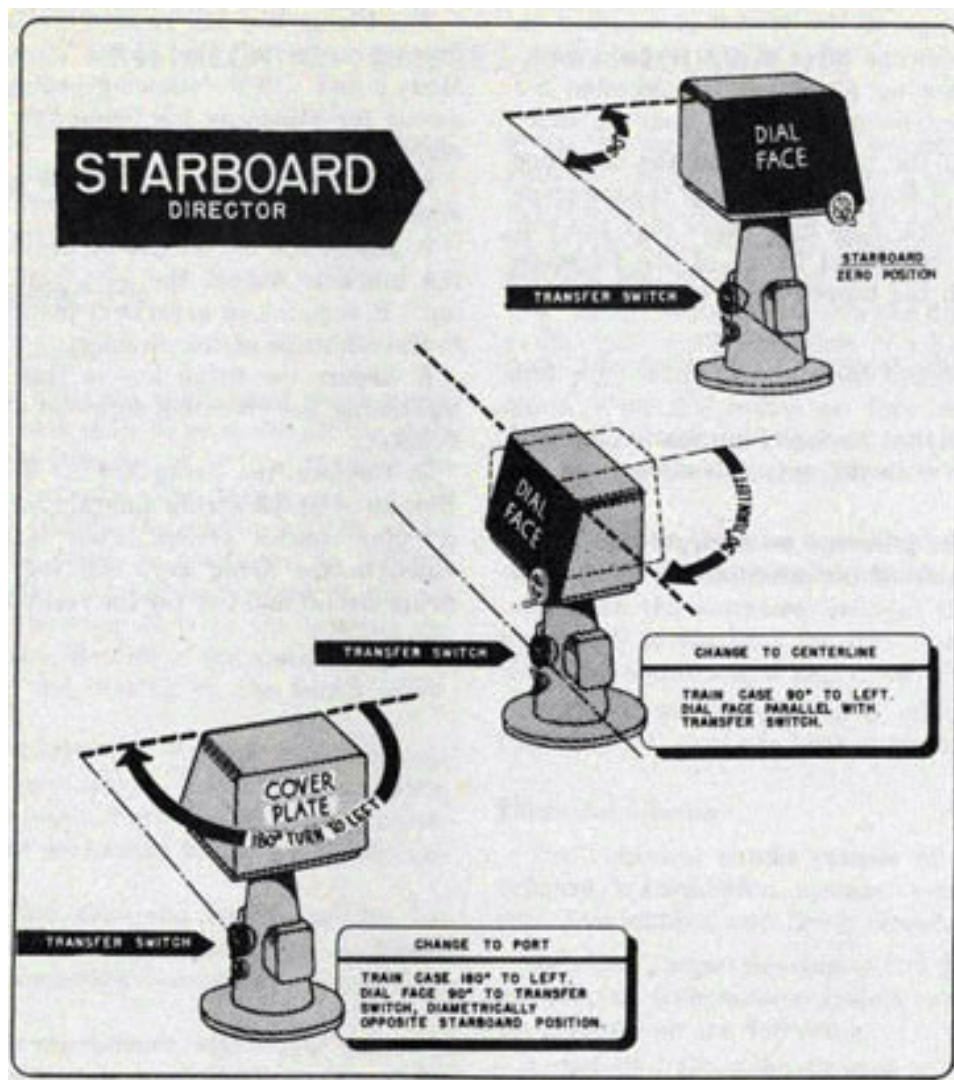

Figure 88-Diagram for changing a port director to a centerline or starboard director.
9. To change a starboard director to port, see figure 88.